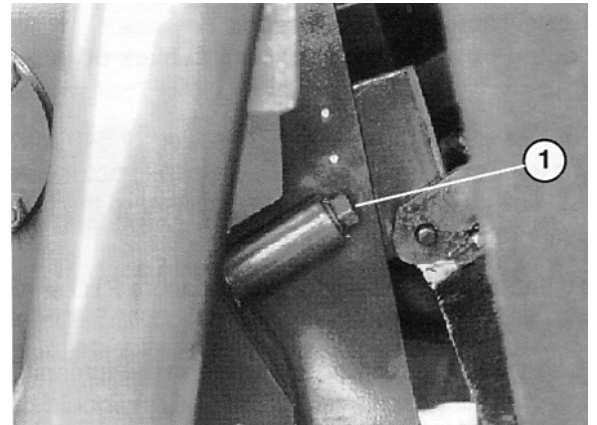

Figure 2
1. At front of aerator, remove (2) plugs from case ports (Fig. 2).